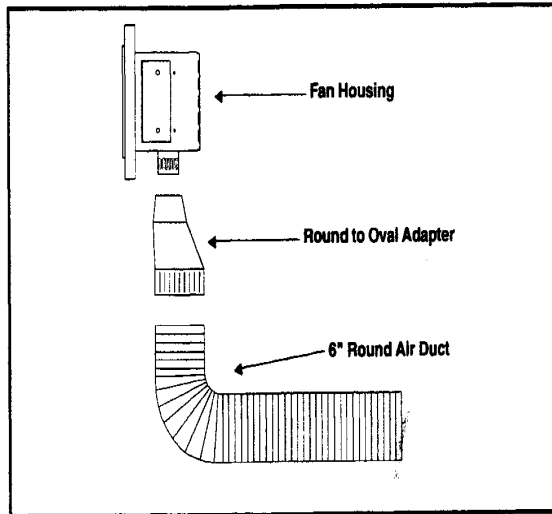

Figure 6
**ROUND AIR DUCT:** Attach the 6" round air duct (supplied in the fan kit) to the fireplace collar and run the duct to the fan housing. Attach the round-to-rectangular adapter to the fan housing and the air duct to the adapter. See Figure 6.